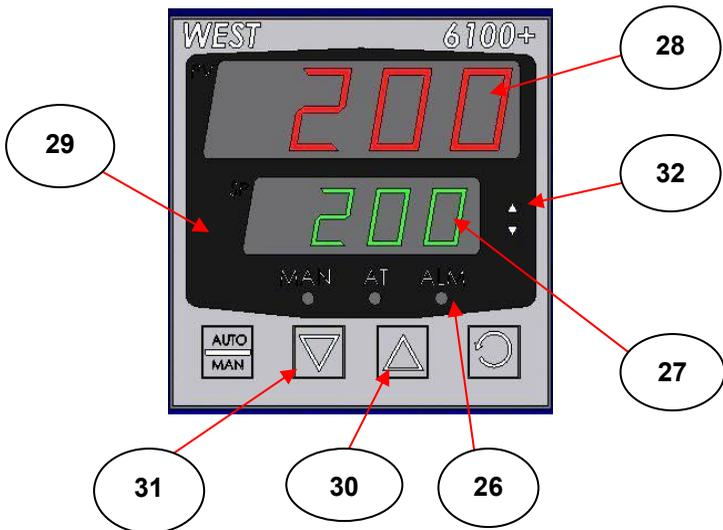

Fig 13. WEST 6100+ Controller Unit on Temperature Controller
The temperature controller (24) is fitted with a WEST 6100+ temperature controlling unit (29). (See Fig 13.). When power is supplied to the controlling unit (29), four zeroes each will be registered in the upper (27) (in red colour) and lower (28) (in green colour) display panels. The lower display panel (27) records the **set** temperature, and the upper display panel (28) registers the heated platens (thermocouple sensing) **actual** temperature.